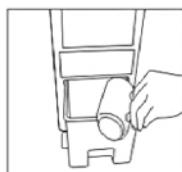

fig.2
4. Pull upwards the water tank and pull outwards about 10cm to the locking pin, then add water. (shown as fig.2).